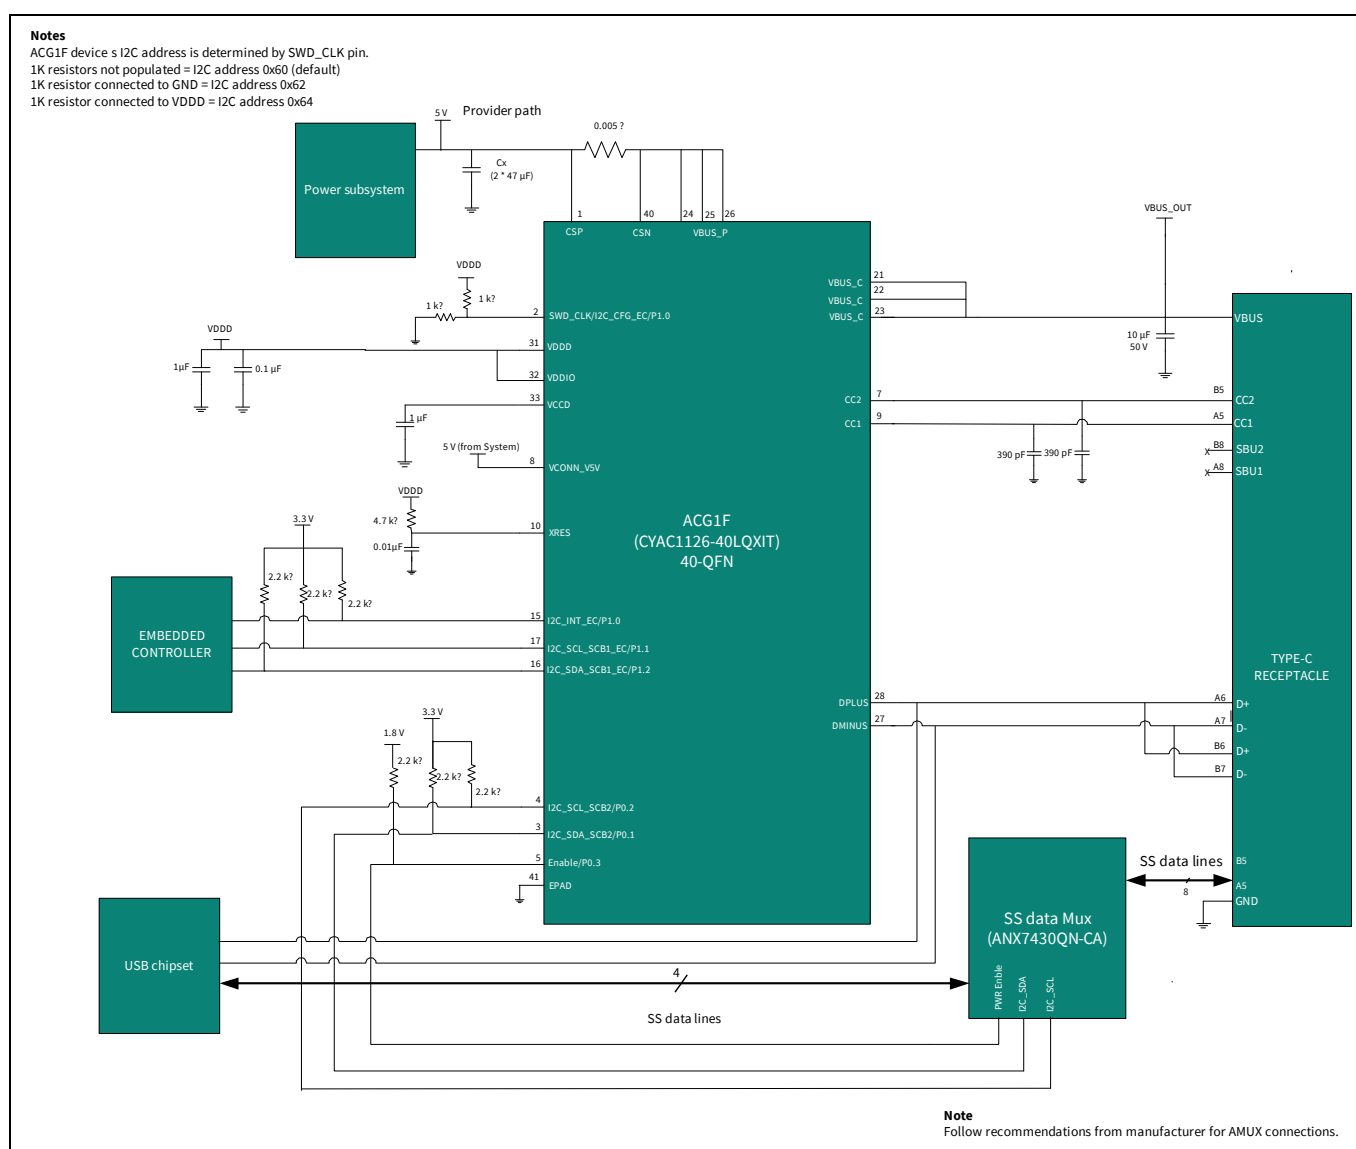

Figure 4 ACG1F in single port USB Type-C notebook application using CYAC1126- 40LQXIT
Figure 4 illustrates a Type-C port DFP application diagram using ACG1F. The Type-C port can be used as a Type-A to Type-C converter. The ACG1F device communicates with the embedded controller (EC) over I²C bus, which manages the ACG1F operation. It also updates external analog mux Controller via I²C to route the USB 5/10/20 Gbps signals coming from the Type-C port to the USB host. The ACG1F device supports battery charger detection (BC 1.2) through USB 2.0 DPLUS and DMINUS lines of the Type-C receptacle which is connected to the controller and to the DPLUS and DMINUS lines of the USB Host controller. ACG1F offers VBUS Short protection on CC lines. The ACG1F device has integrated VCONN FETs for applications that need to provide power for accessories and cables using the VCONN pin of the Type-C receptacle. The integrated VBUS load switch is used for providing power over VBUS. The 5 mΩ resistor between the 5 V supply and provider FETs is used for overcurrent detection on the VBUS.
Figure 4 illustrates single port Type-C port DFP application diagram using CYAC1126-40LQXIT.